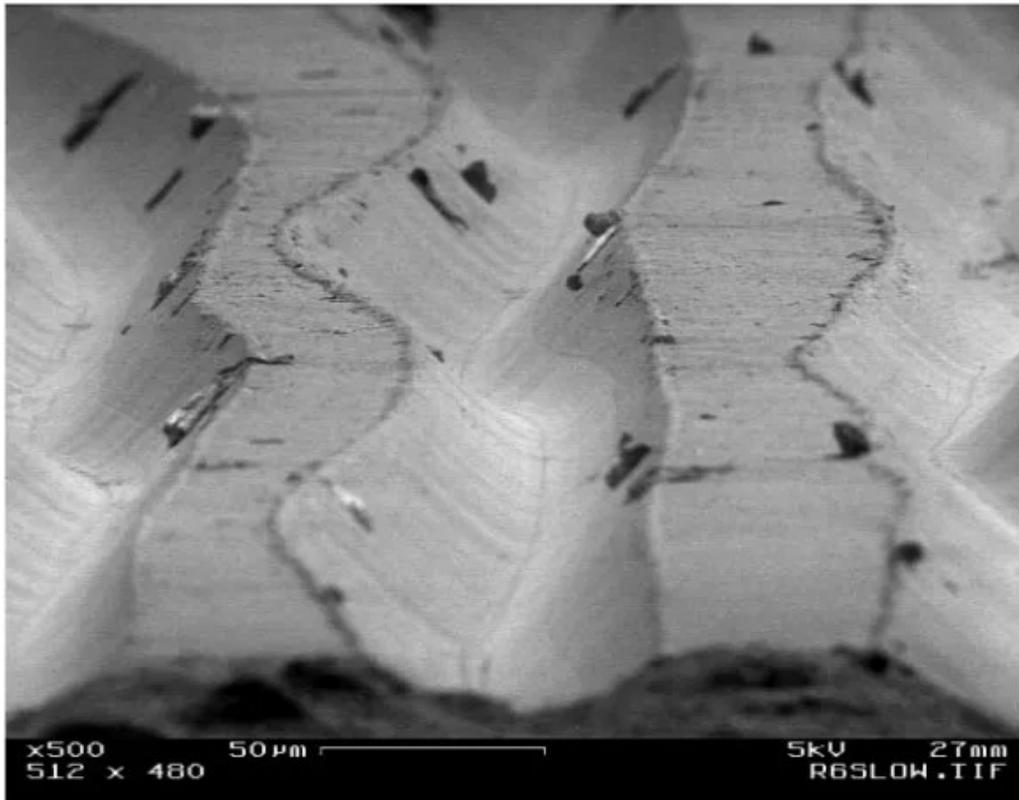

Figure 48 – Record Groove Magnified 500X
- XII.6 The foundation for the manual cleaning process is let the fluid agitation and chemistry do the work - clean the groove - and stay out of the groove with any brush. Looking at **Figure 42** that shows the side wall ridge peak-to-peak distance and then at a record groove shown in **Figure 48**, the valley of the side-wall ridges is much less than the ridge-to-ridge distance. The shaft and tips of a 50-micron (μm) or 40-micron bristle are not going to touch all surfaces. To physically touch the side-wall ridge valleys, the brush bristle must be very narrow. A 10-micron tapered bristle tip may touch all of the side wall ridge surfaces. Slowly moving and bearing down will force a 10-micron tapered tip brush to spread out and may touch all surfaces. But then the fluid speed/velocity is reduced affecting the fluid agitation, and that effects cleaning efficiency the effect on the record surface finish (recall **paragraph XI.7.5**) and bristle durability notwithstanding.